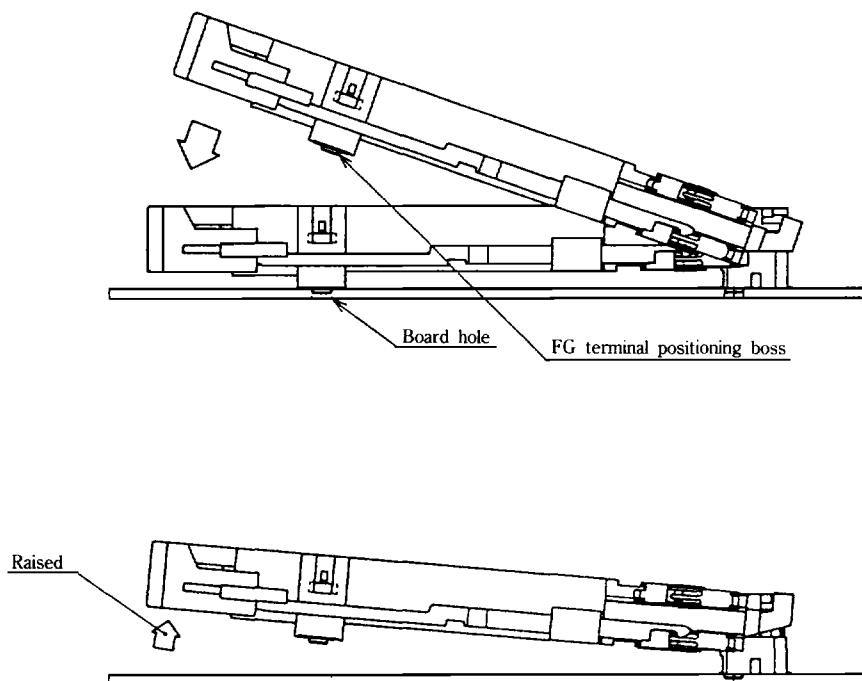

Figure 4
3. Rotate the connector of the main body side until it is horizontal. (See Figure 4.)